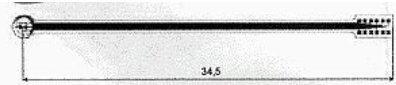

Figure 4. Design of a sieve electrode with 9 ring electrodes and an additional counter electrode w/o shielding. The length is in mm
Fig. 4: (A) Controlled adhesion of neuronal cells and guided outgrowth of their dendrites and axons on a patterned substrate. (B) Micrograph of the array of 4x4 field-effect transistors used in these studies.